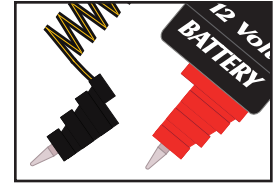

Fig. 1: NEG Removable Probe
2. Remove the black negative (- NEG) probe from the tester (Fig. 1).